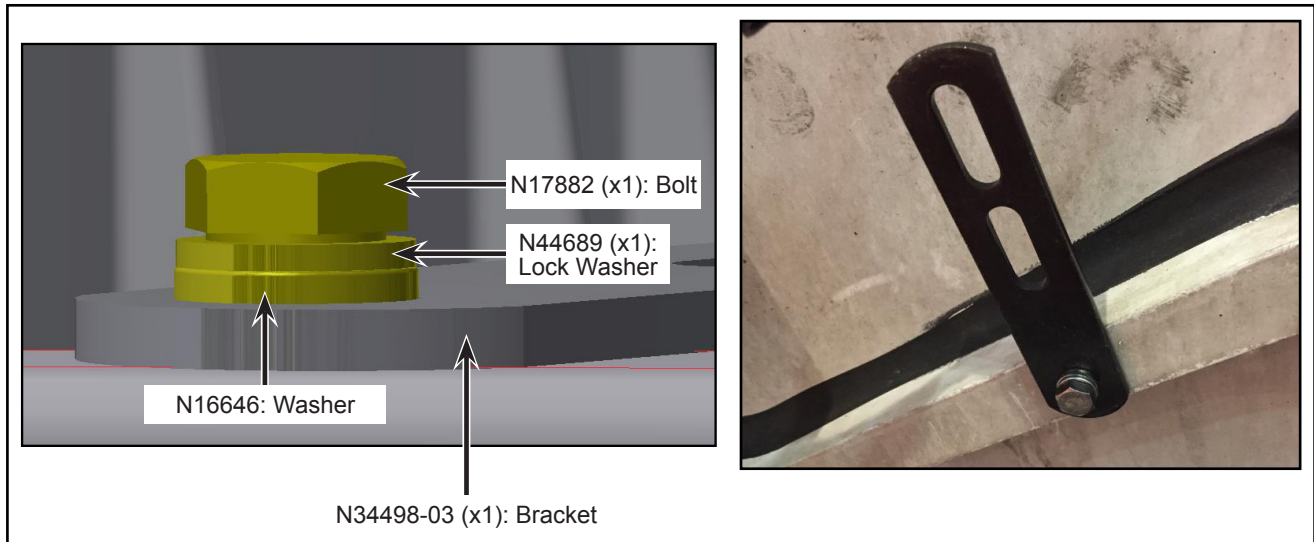

Figure 7 - Typical View of Fan Bracket Installation
1.16. Install a bracket N34498-03 with hardware (see Figure 7). Tool: 10mm socket.